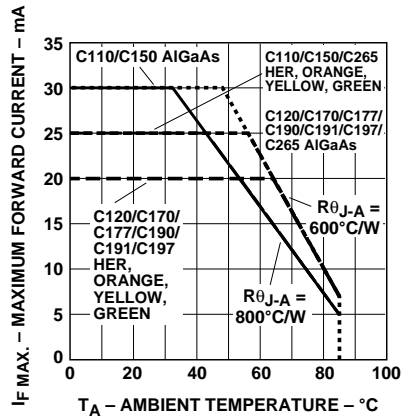

Figure 4. Maximum Forward Current vs. Ambient Temperature
1. Derate linearly as shown in Figure 4 for temperature above 25°C .